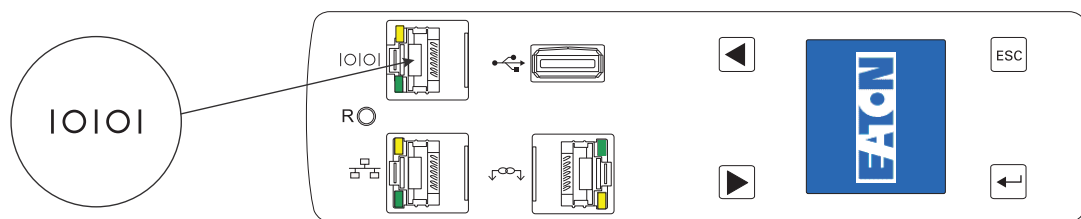

Figure 36. Connecting the EMP to the ePDU RJ-45 Serial Port Connector (OU Models)
3. Locate the Ethernet cable dedicated to the EMP. Connect one end of the cable to the RJ-45 connector on the EMP, then connect the other end of the cable to the serial connector on the ePDU (see Figure 36).